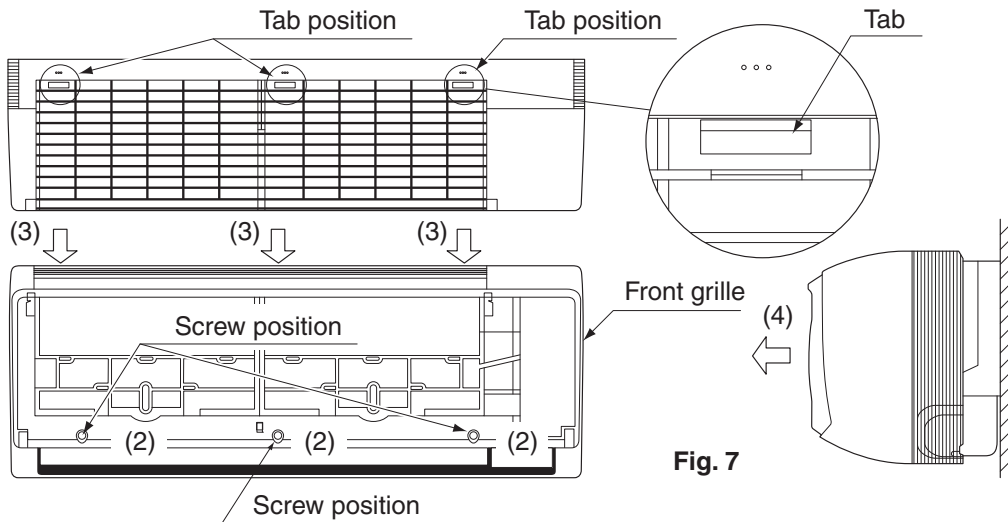

Fig. 7
Remove the front grille. (Refer to Fig. 7)
- At this time remove the buffering material placed in step (6).
- Remove the front grille. (Refer to Fig. 7)